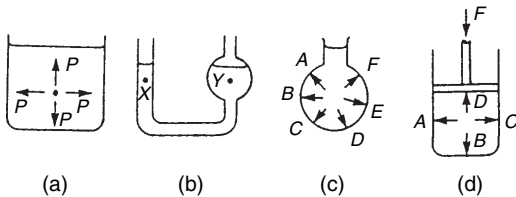

Figure 21.1
- (a) The pressure at a given depth in a fluid is equal in all directions, see Figure 21.1(a).
- (b) The pressure at a given depth in a fluid is independent of the shape of the container in which the fluid is held. In Figure 21.1(b), the pressure at X is the same as the pressure at Y.
- (c) Pressure acts at right angles to the surface containing the fluid. In Figure 21.1(c), the pressures at points A to F all act at right angles to the container.
- (d) When a pressure is applied to a fluid, this pressure is transmitted equally in all directions. In Figure 21.1(d), if the mass of the fluid is neglected, the pressures at points A to D are all the same.